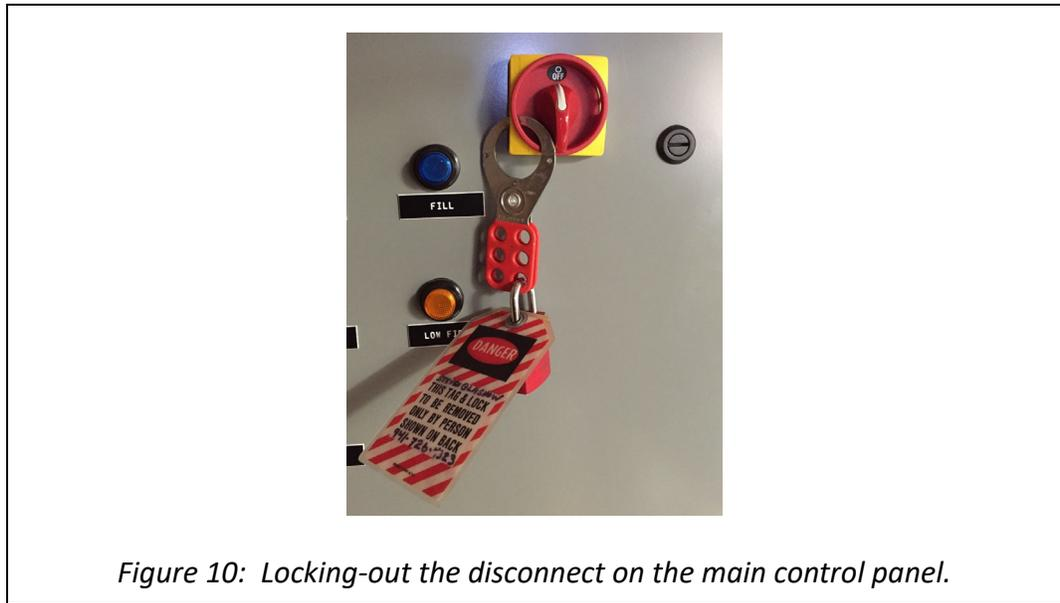

Figure 10: Locking-out the disconnect on the main control panel.
- b. Lock-out the disconnect switch (see Figure 10).